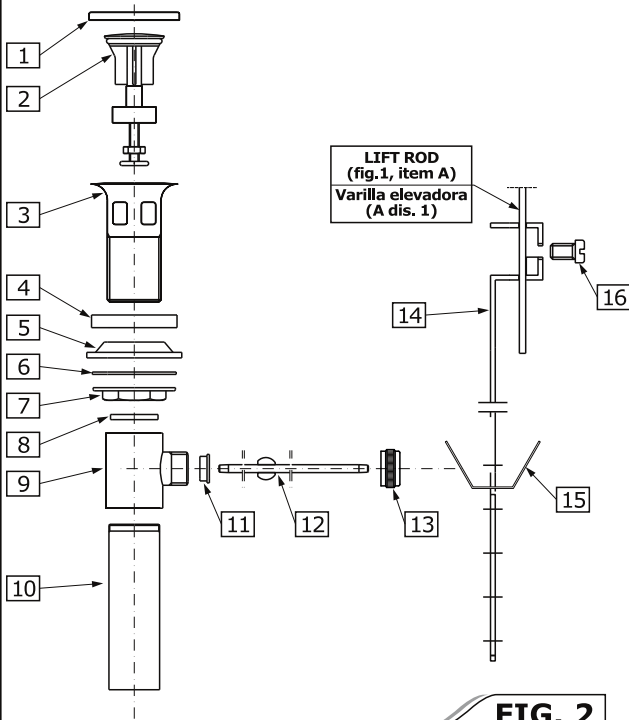

FIG. 2
- Dismantle the drain assembly to the parts shown on **fig. 2**.